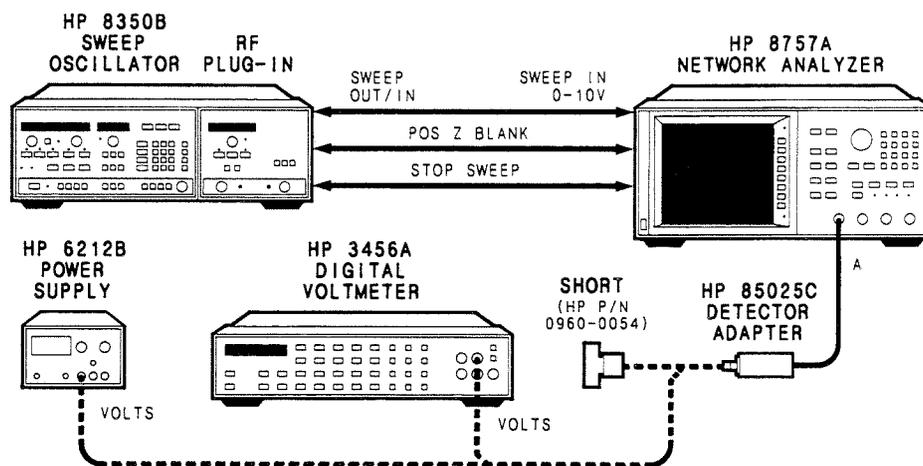

Figure 3. Adjustment Procedure Set Up.
2. Connect the equipment as shown in Figure 3, with the DC power supply connected to the digital voltmeter (DVM). Allow the equipment to warm up for 30 minutes.